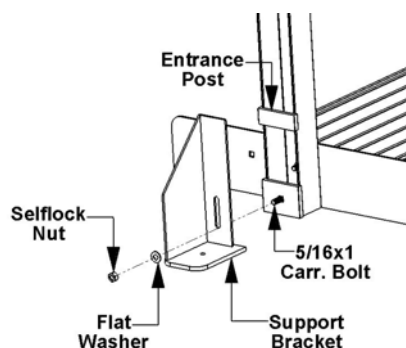

Fig.4.6
Note: Place Entrance Posts at base of bottom ramp as shown in Fig.4.6 found on page 19.
4.2.1 Entrance Assembly: Locate the entrance post. The entrance post has plates welded to them to attach the support brackets at the beginning of the entrance section (Fig.4.6). Install this post using only one bolt to the bottom of the entrance ramp section in the same manner as all other handrail posts (found in **Section 4.2**, pg.17). Continue installing and splicing all handrail assemblies for bottom ramp run (go to **Sections 4.2 & 4.3**; repeat as needed). Attach the support brackets by running a carriage bolt through the square hole of entrance post plate, place the slotted hole of the support bracket over the carriage bolt and fasten using a flat washer and self locking nut (Fig.4.6), do not tighten all of the way down.